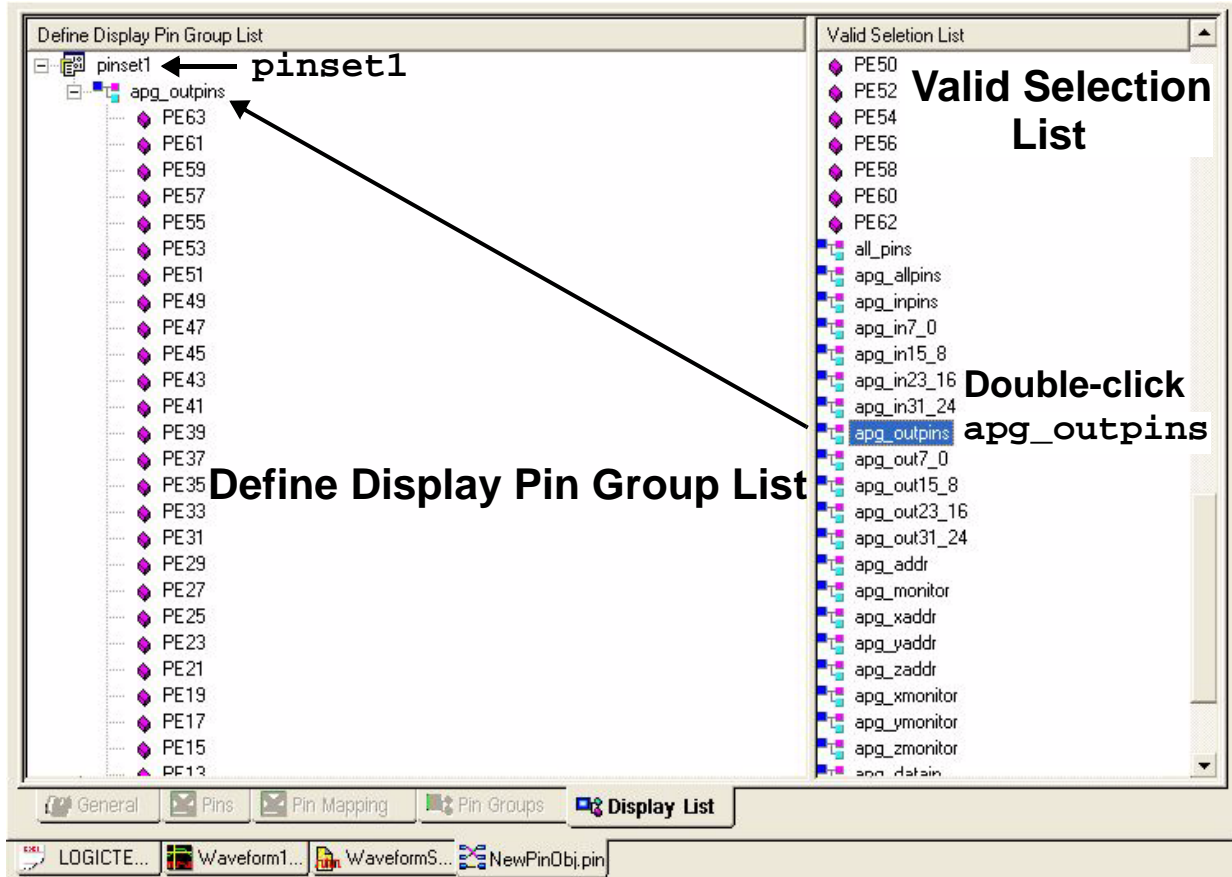

Figure 6-63. Adding apg_outpins to pinset1 for Display
- 5 Scrolling down the Valid Selection List and double-clicking on the `apg_outpins` group adds and displays that pin group to `pinset1` in the Define Display Pin Group List panel on the left (Figure 6-63).